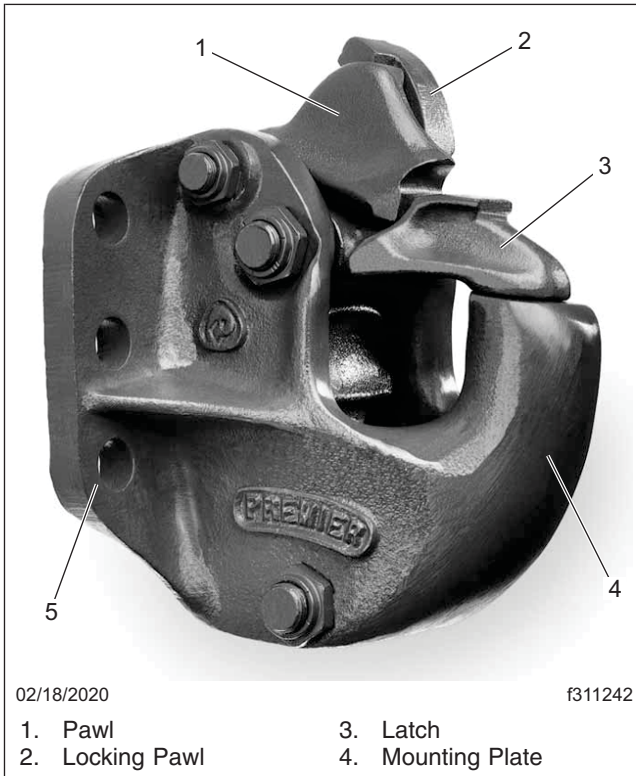

Fig. 19.3, Premier #370 Air Pintle Hitch
2. Rotate the locking pawl toward the mounting plate as far as it will go. Holding the locking pawl in this position, rotate the pawl up until it stops on the locking pawl. Holding the pawl in this position, rotate the latch upward until it stops in the fully open position. Holding the latch open, slowly release the pawl. The underside ledge of the pawl will catch the flat front surface of the latch, interlocking the two into the open position. See Fig. 19.3.